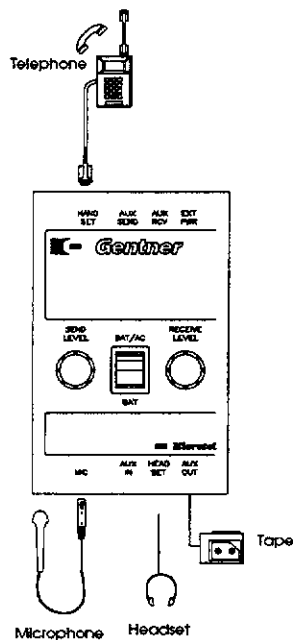

Figure 7
1. Set up your Microtel as described in "General Use" (page 4) and as shown in Figure 7.